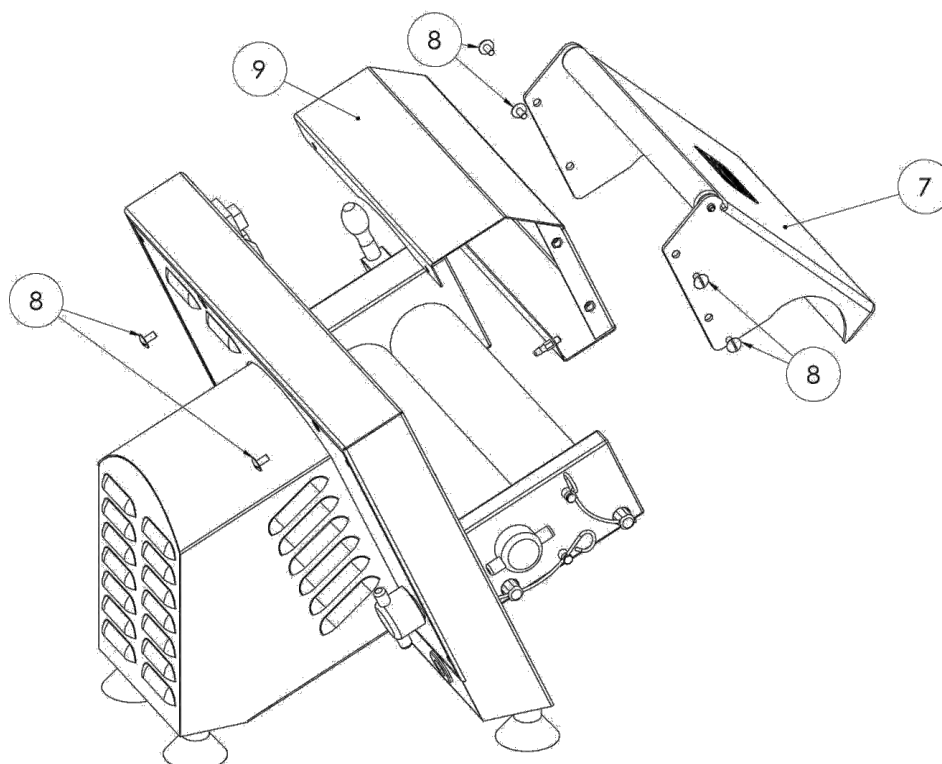

Fig.5
- 4) Unfasten the screws (8) on the roller guard (7) and slide (9) in Fig. 5. The roller guard (7) must be washed in warm running water and dried with a cotton or paper towel. The guard must ALWAYS be reassembled and the screws tightened thoroughly.